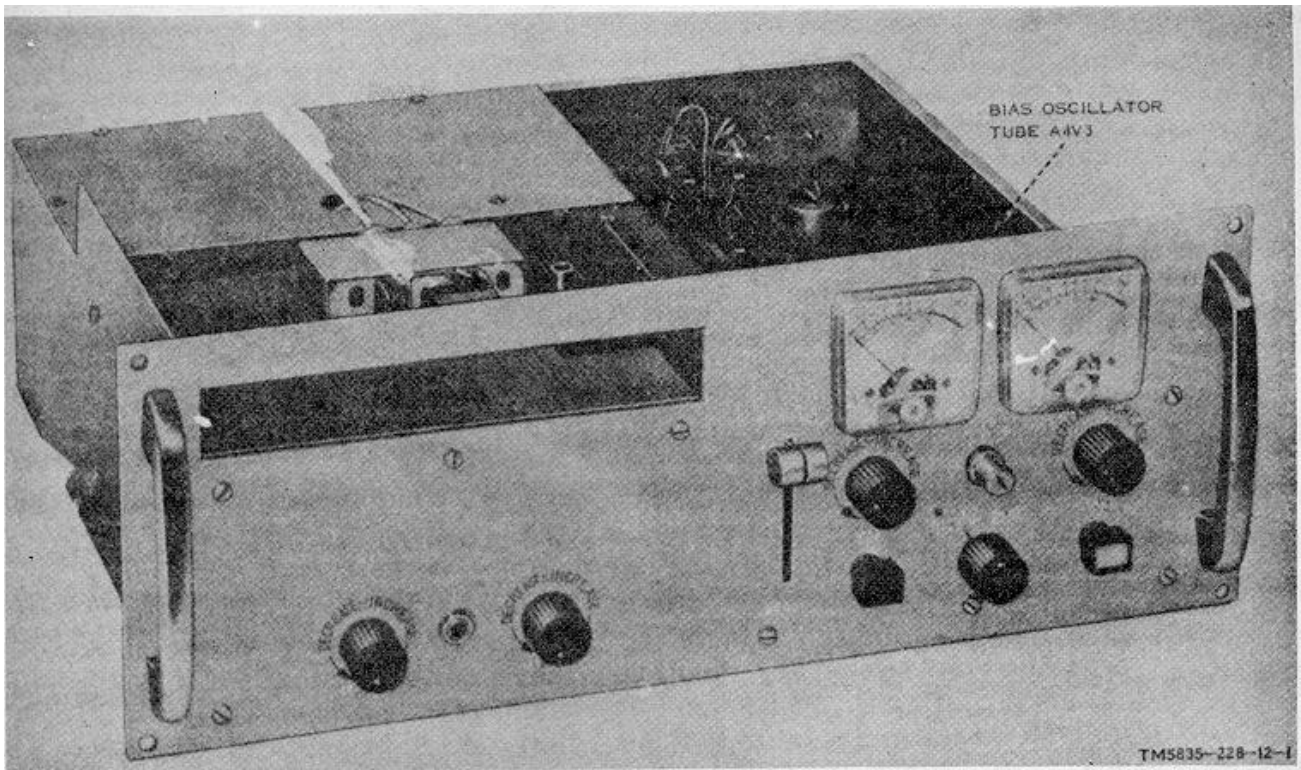
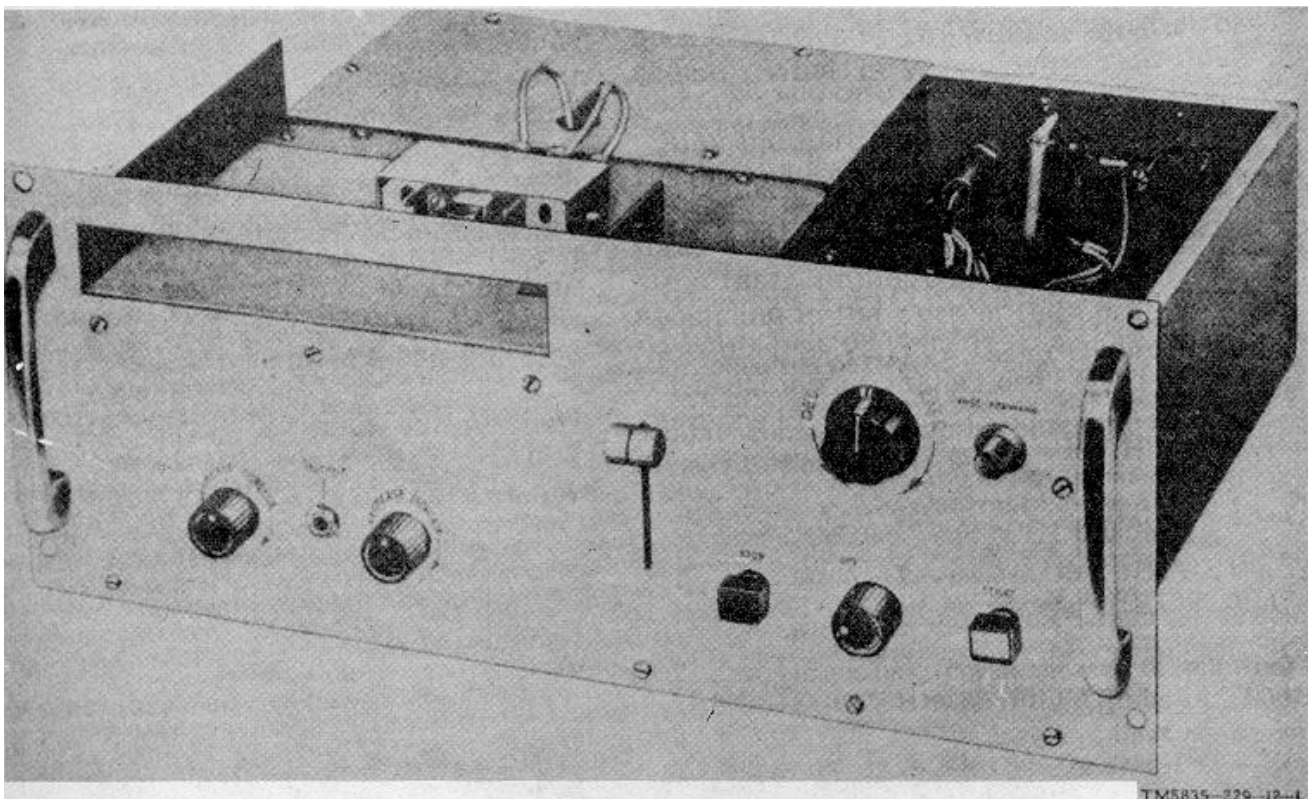

Figure 4. Recorder-Reproducer, Sound RD-265/GRC.
Figure 5. Reproducer, Sound RP-138/GR.
- (4) Each chassis assembly of the frequency converter is equipped with a self-contained power supply which produces all the voltages required by the unit.
c. *Description of Recorder-Reproducer, Sound RD-265/GR (figure 4).*
- (1) The recorder-reproducer unit is contained in a drawer-type chassis with a front panel affixed to the chassis. The unit is mounted in the cabinet directly beneath the converters. Handles on the front panel permit the drawer-type chassis to be pulled out for servicing.
- (2) All operating controls and two volume units (vu) meters are located on the front panel. An access hole for the tape cartridge is also located on the front panel.
- (3) All input connections to the recorder-reproducer are made at the rear of the chassis. Primary power is applied to the unit through a permanently attached cable which is terminated in a twist-lock plug. A fuseholder and a chassis ground terminal are located near the power cable. The channel A and B audio input signals are applied to the recorder-reproducer through two separate phone jacks. The input signals can be monitored at a second pair of phone jacks located at the rear of the chassis. An octal socket is provided for connecting a remote control device capable of starting and stopping the tape drive.
- (4) The playback output of the recorder-reproducer can be obtained from a two-circuit phone jack mounted on the front panel.
d. *Description of Reproducer, Sound RP-138/GR (figure 5).*
- (1) The reproducer is contained in a drawer-type chassis with a front panel affixed to the chassis. The equipment is mounted in the lower portion of the cabinet. Handles on the front panel permit the drawer-type chassis to be pulled out for servicing. All operating controls are located on the front panel. An access hole for the tape cartridge is also located on the front panel.
- (2) All input connections to the reproducer are made at the rear of the chassis. Primary power is applied to the unit through a permanently attached cable which is terminated in a twist-lock plug. A fuseholder and a chassis ground terminal are located near the power cable. An octal socket is provided at the chassis rear for connecting a remote control device capable of starting and stopping the tape drive. The output of the reproducer is taken from a two-circuit phone jack mounted on the front panel.
a. Remove the four panel screws and partially withdraw the recorder-reproducer unit from the cabinet. Remove bias oscillator tube A4V3 (fig. 4). It is only required for recording voice transmissions.